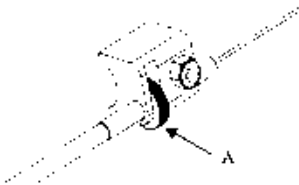

Figure 9 - Clutch Adjustment
4.1 Clutch Adjustment (Refer Fig. 9)